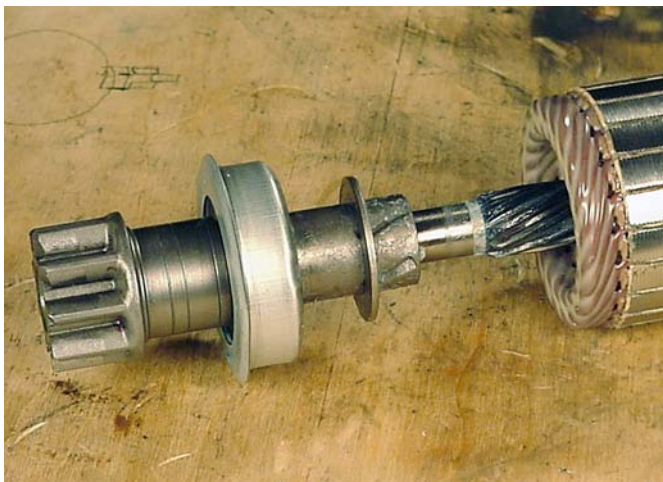

Fig. 107
- Remove pinion gear and clutch assembly, Fig. 107.